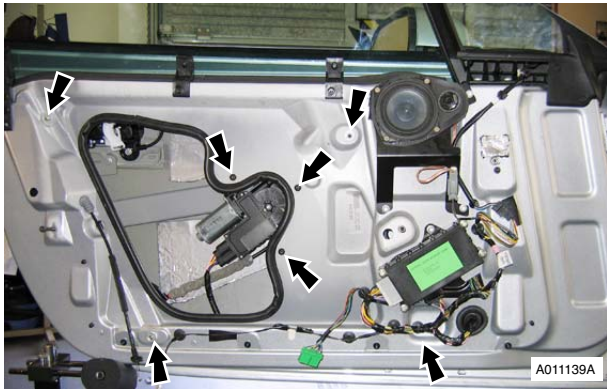

Figure 6
19. Remove nuts (x4) and Torx screws (x3) securing door glass regulator to door frame (see Figure 6).